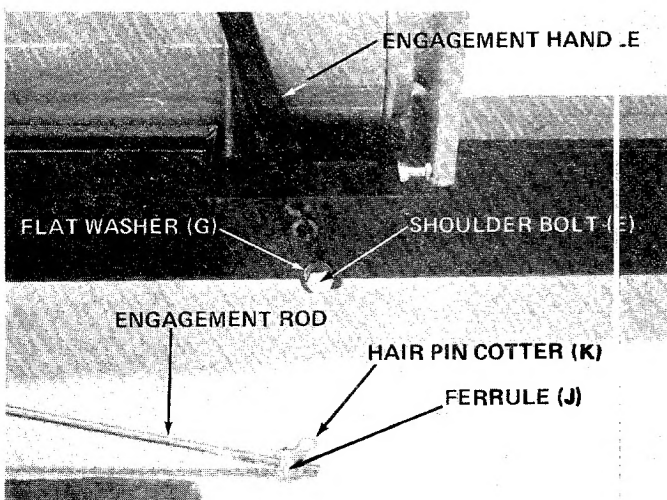

FIGURE 6.
6. Secure engagement handle to beam with shoulder bolt (F) and flat washer (G). See figure 6.
8. Secure engagement rod to engagement handle with hair pin cotter (K). See figure 6.